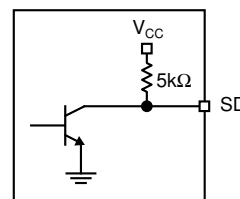

Figure 5. SD Output Structure
The SY88883V generates a chatter-free signal detect (SD) open-collector TTL output with internal  $5\text{k}\Omega$  pull-up resistor as shown in Figure 5. SD is used to determine that the input amplitude large enough to be considered a valid input. SD asserts high if the input amplitude rises above the threshold set by  $\text{SD}_{\text{LVL}}$  and deasserts low otherwise. Typically 4.6dB SD hysteresis is provided to prevent chattering.